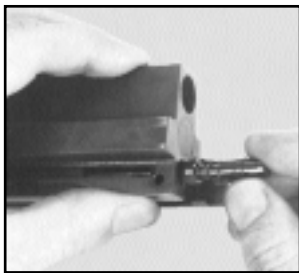

Fig. 30
- Insert firing pin spring and firing pin into the bolt from the rear and push them forwards (Fig. 30).